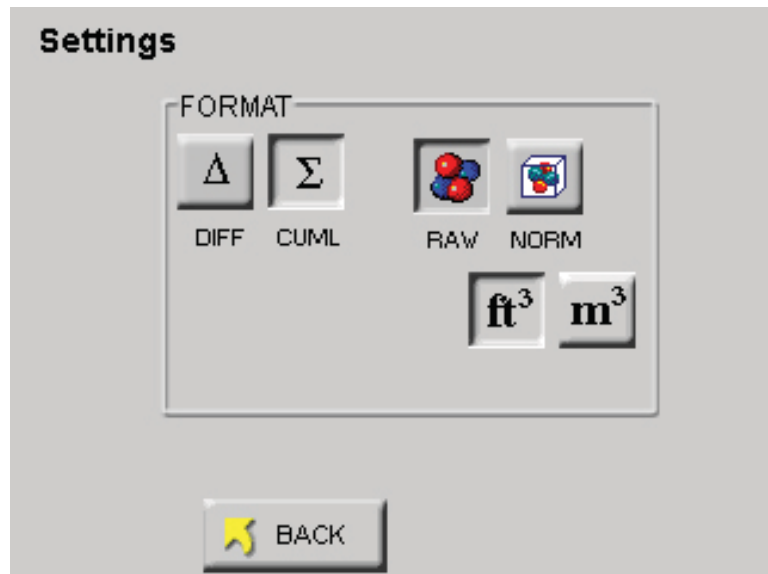

Figure 6-89 Reports Settings Screen
- Select the SETTING button to format the instrument for CUML/ DIFF, RAW/NORM, ft³/m³ as shown in Figure 6-89.